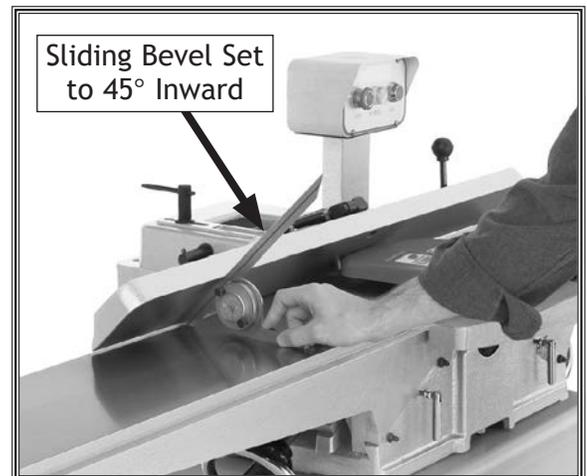

Figure 53. Example of adjusting fence to 45° inward.
3. Place sliding bevel set to 45° against fence and table, as shown in **Figure 53**.